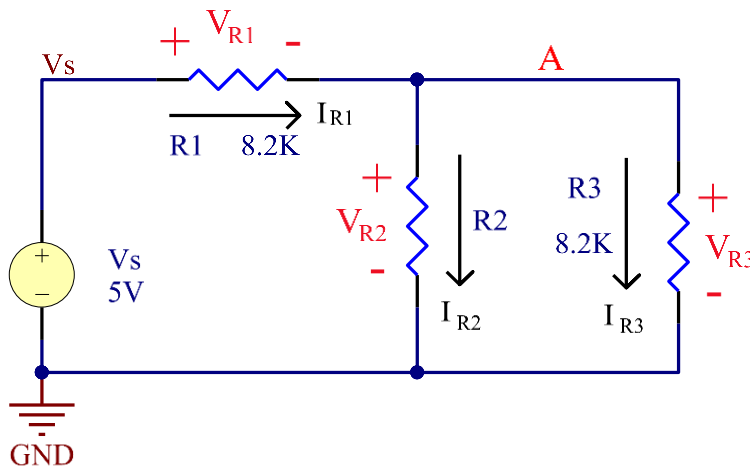

Figure 2
- b) Build the circuit in Fig. 2. Connect the Power Supply to R_1 and GND.
Table 1: Measured and Calculated Data for Fig. 2.
Table 2: Calculated Data and Errors for Fig. 2.
1. Compare the “Theoretical Currents” to the “Measured Currents” for Fig. 2. Explain why they may not be exactly equal. Verify that Kirchhoff’s Current Law applies to this circuit.
2. For Figure 2, verify KVL for the loop containing Vs, R1 and R2. Use the voltage values that you measured in step 2 of this lab.
3. Verify KCL at Node A of the circuit shown in Figure 2. Use the “Calculated Current” values you entered in Table 1.